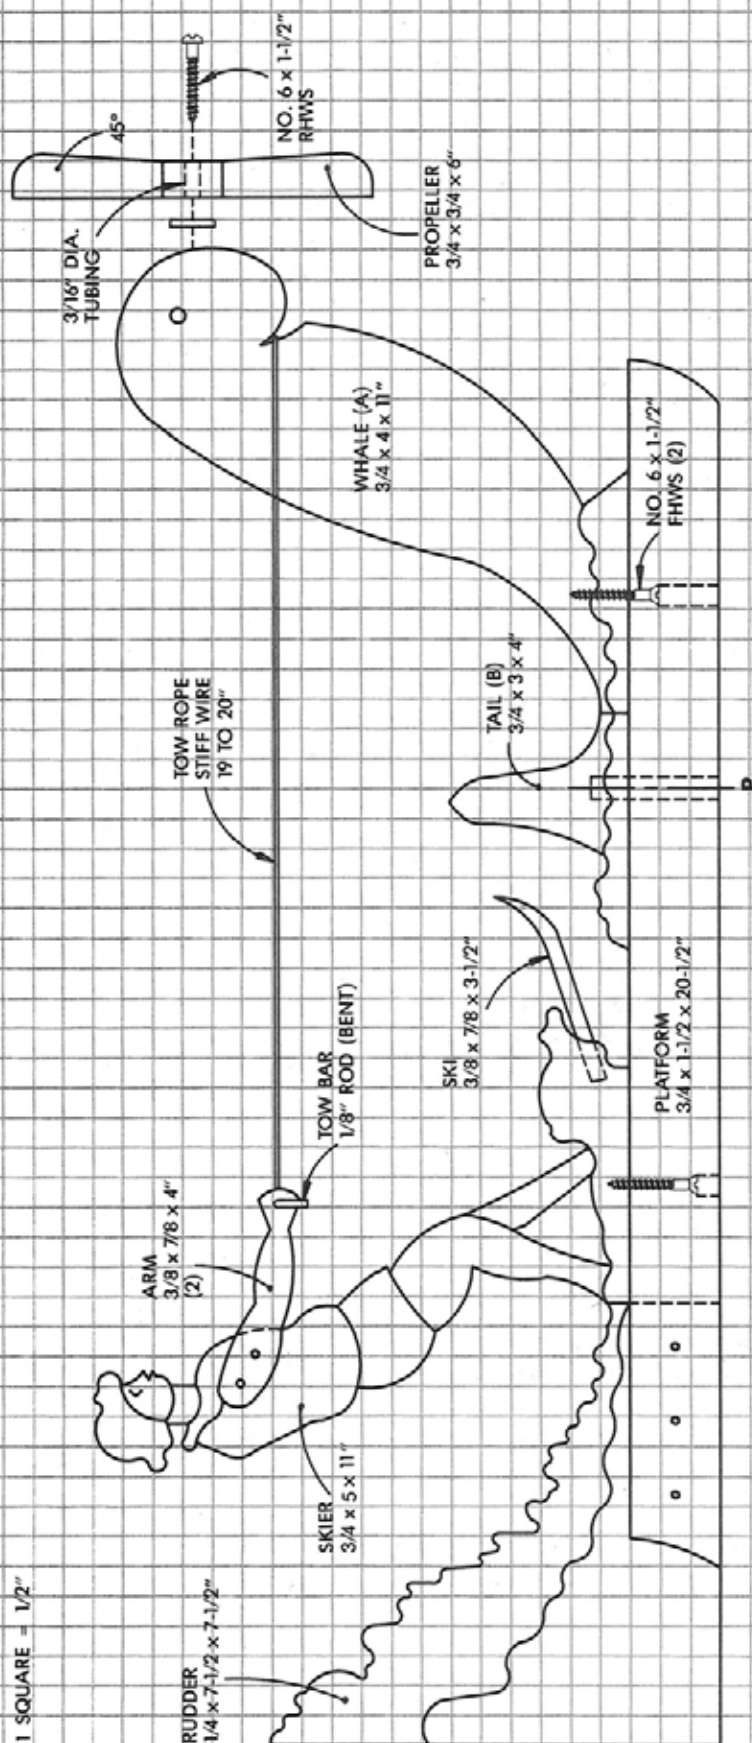

Figure 5-15. Plan for Water Skier whirlingig.
1. Cut out the specially-sized platform (Fig. 5-15). Cut a 1/4 in. slot for the tail 4-1/2 in. from the rear of the platform. Drill a screw hole at 4 in. to hold whale Part A and another at 14 in. to hold the skier.
3. Cut out whale parts A and B. Glue/screw Part A to the platform, then nail/glue Part B next to it. Drill a 3/8 in. hole for the pivot socket 7-1/4 in. from the front of the platform through the platform and into whale part B as shown in Fig. 5-15. Insert the tension pin and cap.